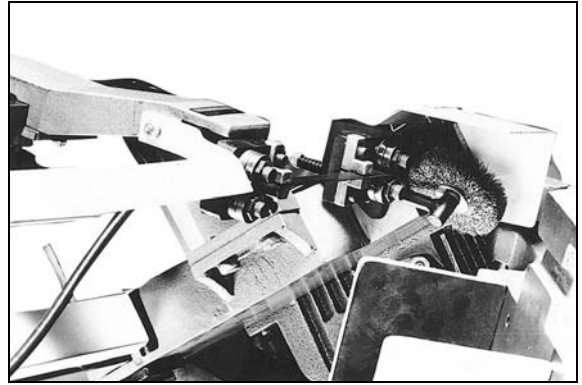

Fig .2
9. Work the blade all the way up between the blade guide bearings with the back of the blade against the back-up bearing, as shown in Fig.2.